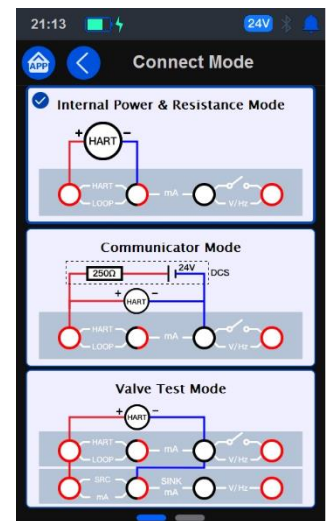

Figure 1: Additel 227 graphical wiring diagrams
- The Additel 227 with HART communications includes a graphical wiring feature that helps with configuring the communication (see figure 1)
- HART commands are established in (3) categories, universal, common practice and device specific. It is generally best to use your communicator of choice to send a “universal” command, such as “read manufacture and device type” to ensure that communications are working properly.